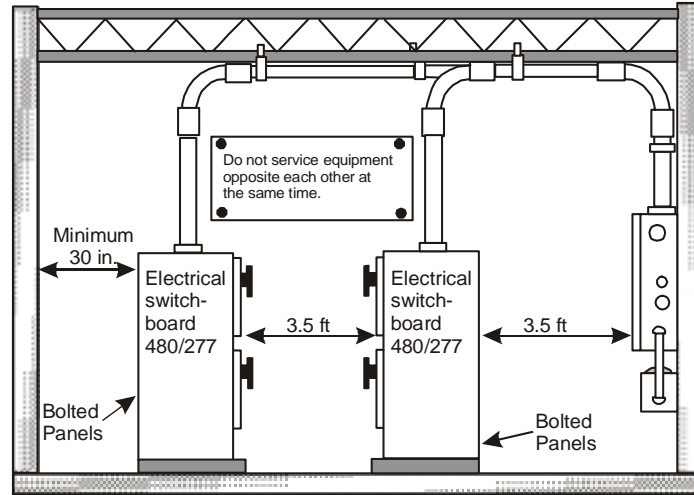

Figure 12-3.—Working space requirements for rear or side access.
b. Provide a working space of at least 30 inches horizontally where rear or side access is required to work on de-energized parts of enclosed equipment (see figure 12-3).